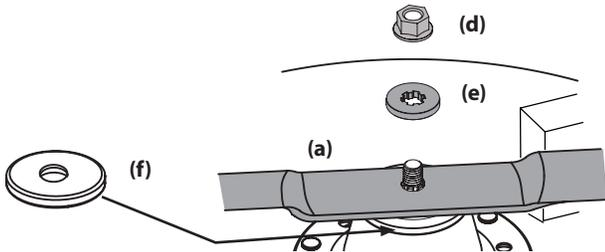

Figure 44
- Remove the flange nut (d) and flat washer (e) securing the blade (a) to the mower (a) and remove the blade (Figure 44).